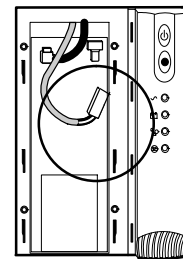

Figure 4 Removing the Protective Label
- 4 Remove the protective label from the internal battery connector (see Figure 4).